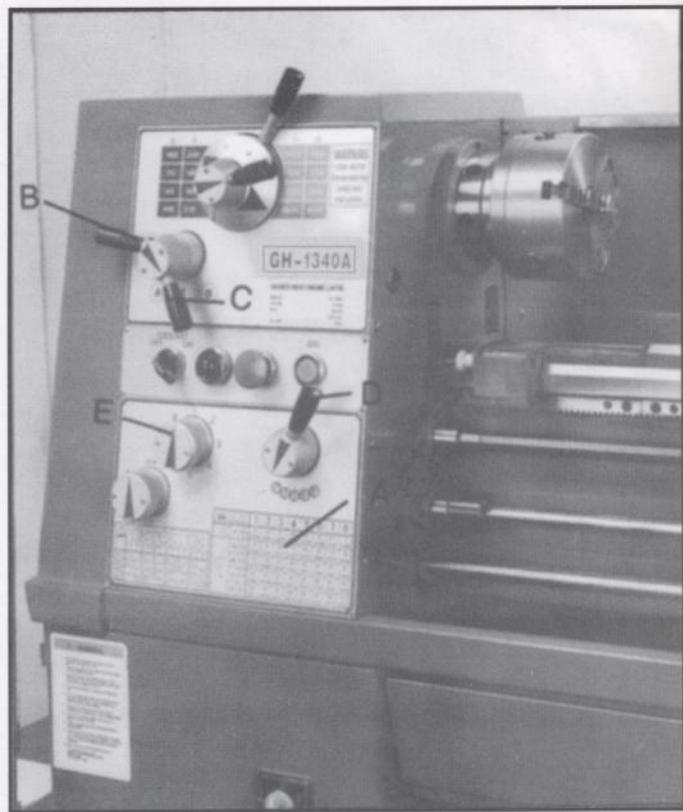

Fig.16
1. Reference the feed and thread tables (A, Fig. 16) found on the gear box faceplate.
2. Move levers (B,C,D,& E, Fig. 16) to the appropriate positions according to the chart.
Note: the 25T \times 127T \times 50T gears are installed in the end gear compartment when delivered from the factory. This combination will cover most inch feeds and threads under normal circumstances. The 30, 32, two 40 tooth gears and other gears found in the tool box are used as indicated on feed and thread tables (A, Fig. 16).
Note: other gear combinations are possible. See the lead and feed chart on the front of the gear box (A, Fig. 16).